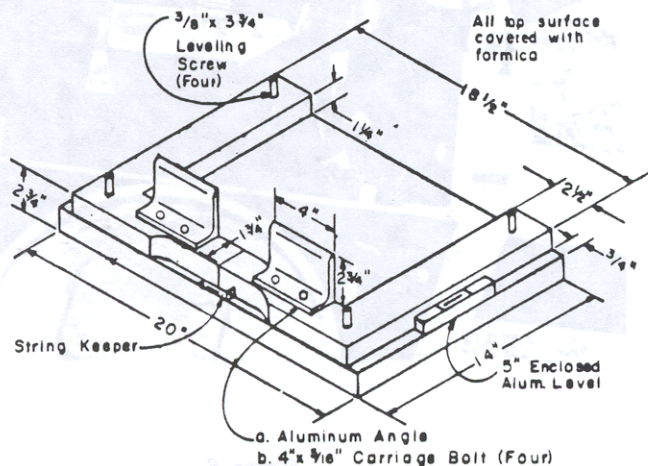

Figure 1
- (b) *Wheel Blocks* - Two wheel blocks of specified dimensions, with levels and level adjusting screws as indicated in Figure 1.